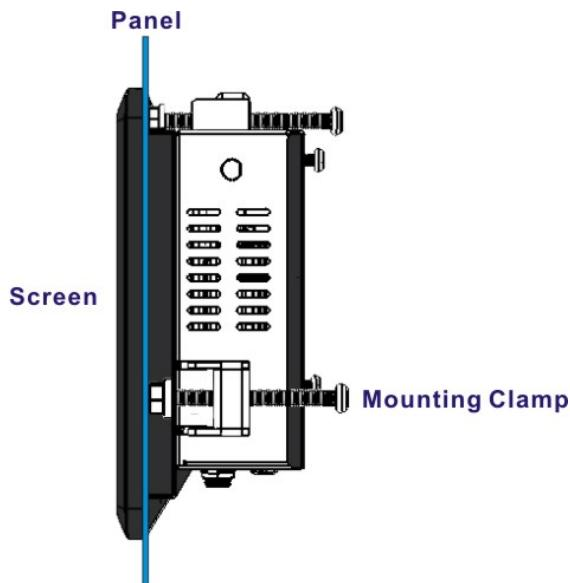

Figure 3-21: Tighten the Mounting Clamp Screws
Step 4: Insert the mounting clamps into the mounting brackets and pre-formed holes along the edges of the PPC-F06B-BT, behind the aluminum frame (**Figure 3-21**). There are a total of four mounting clamps required.
Step 5: Tighten the screws that pass through the mounting clamps until the plastic caps at the front of all the screws are firmly secured to the panel (**Figure 3-21**).